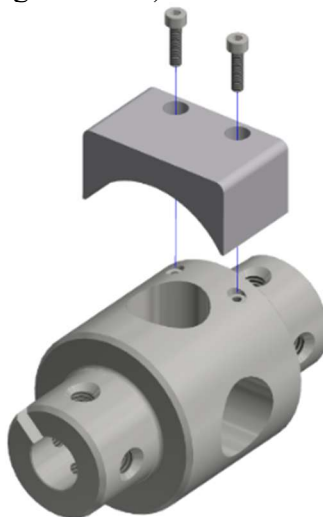

Figure 11-13. Separate the Connector Block Structural Replacement (474-6113) from the Upper-Lower Arm Load Cell Structural Replacement (484-6106)
- 11.2.10 Separate the Connector Block Structural Replacement (474-6113) from the Upper-Lower Arm Load Cell Structural Replacement (484-6106) by removing two M2.5 X 0.45 X 10 LG. SHCS (Figure 11-13).